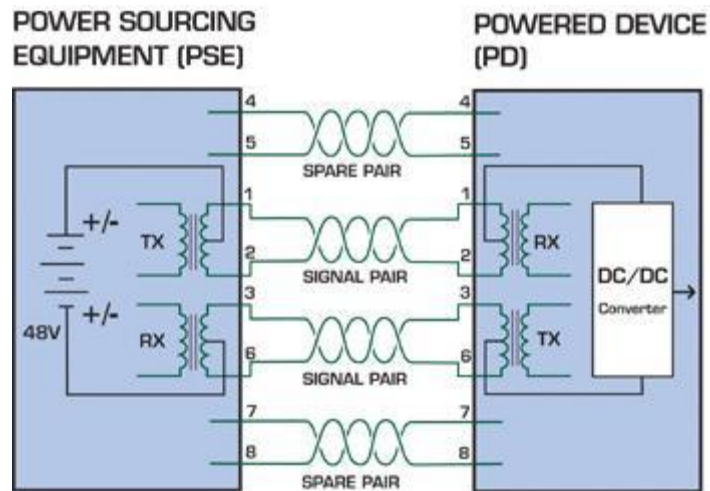

Figure 2 - Power Supplied over the Data Pins
- **The data pairs are used.** Since Ethernet pairs are transformer coupled at each end, it is possible to apply DC power to the center tap of the isolation transformer without upsetting the data transfer. In this mode of operation the pair on pins 3 and 6 and the pair on pins 1 and 2 can be of either polarity. This is shown in Figure 2.